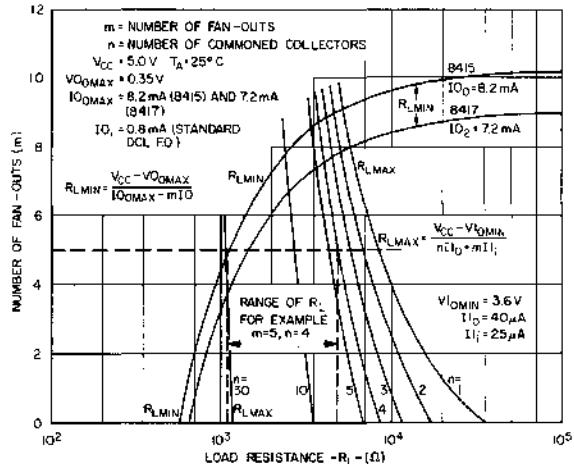

Figure 4-15 — Allowed Values of  $R_L$  for the 8415 and 8417
3. Knowledge of the range of possible values of  $R_L$  for any combination of commoned collectors and total fan-outs (F.O.'s) is of extreme importance in any collector logic oriented system. Figures 4-15 through -17 for the bare collector gates 8415/17, the 8471/81 and the 8881, respectively, will enable the system designer to choose  $R_L$  for any combination of commoned collectors, number of fan-outs, speed and power consumption.
To use the curves in Figures 4-15 through -17, draw a horizontal line out from the vertical axis at the level of the required number of fan-outs (m). Extend the line until it intersects the  $R_{L\text{MAX}}$  line for the required number of commoned collectors (n). The line will also intersect the  $R_{L\text{MIN}}$  curve. Drop a vertical from where it intersects the  $R_{L\text{MIN}}$  curve and another from where it intersects the  $R_{L\text{MAX}}$  curve. The range of values between these verticals on the Load Resistor axis is the full range of  $R_L$  for those n and m values. (Example: for the 8415, Figure 4-15, if m = 5 and n = 4,  $R_L$  ranges from 1.1 kΩ to 4.9 kΩ.)